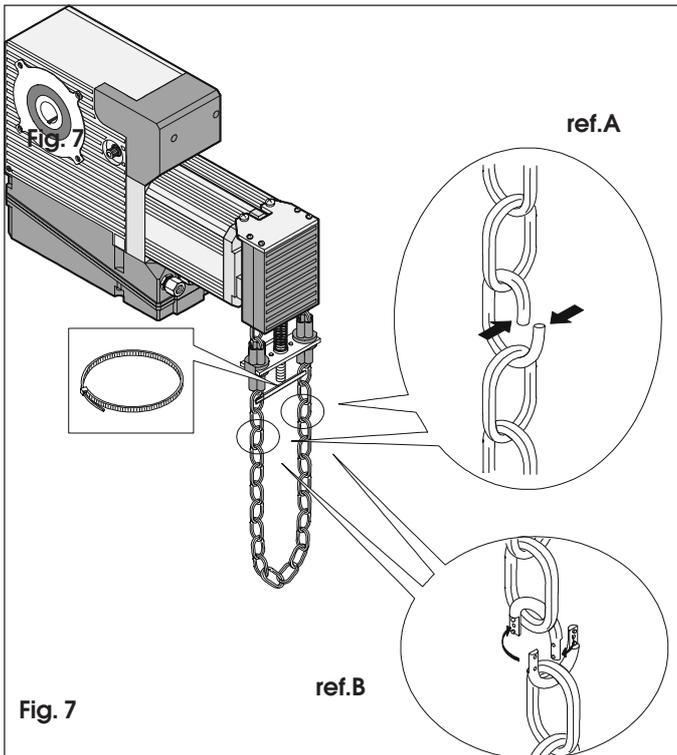
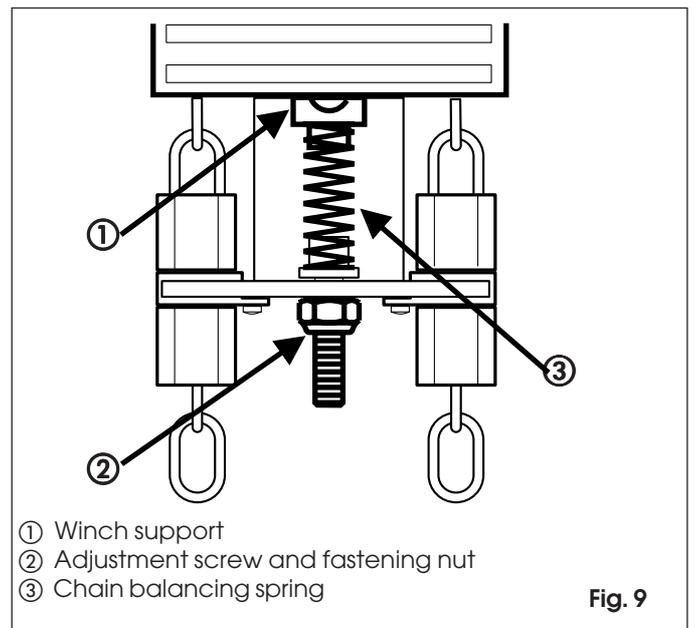

Fig. 7
Fig. 9
Unwind the supplied chain completely and join one of its ends to the one already fitted to the winch, without cutting the service clip. Use one of the supplied links, selecting from those in steel (see figure 7 ref. A) or from those in plastic (see figure 7 ref. B). The plastic links must be assembled. Tighten the steel links accurately, to allow the chain to move perfectly, inside the winch.
Assemble the other side of the chain, in the same way as in figure 7.
Adjust the screw of the balancing spring (see figure 9) so that the winch support disappears completely inside the plastic enclosure (see figure 10).
If you are using the chain extension kit, replace the balancing spring (fig. 9 ref. 3) with the one contained in the kit. If you are using plastic joints, we advise you to glue them together during assembly (see fig. 7 ref. B).